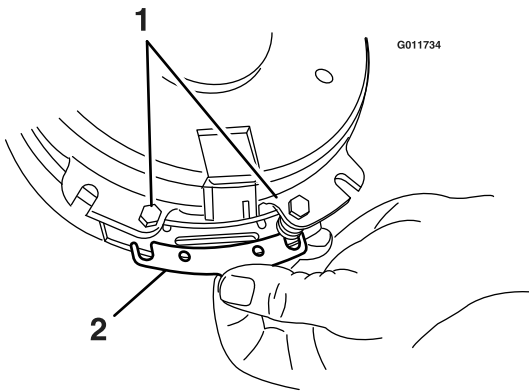

Figure 37
- A. Loosen both brake mounting bolts one-half to one full turn (see Figure 37).